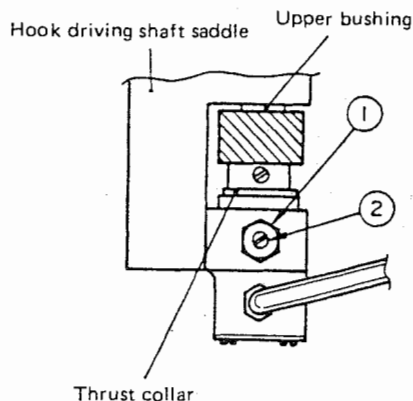

Fig. 24
A maximal amount of oil is fed to the hook when oil adjusting screw ② (Fig. 24) is fully tightened.
1. Loosen oil adjusting screw locknut ①.
2. Turn oil adjusting screw ② for an optimum oil amount and tighten locknut ①.